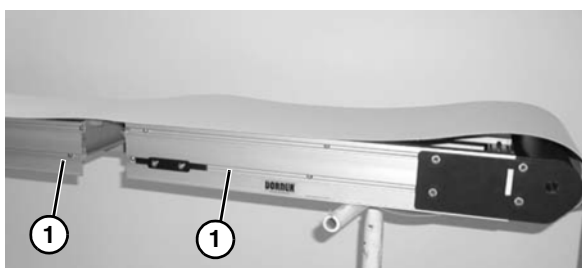

Figure 8
3. Roll out conveyor belt and place conveyor frame sections (**Figure 8, item 1**) into belt loop.